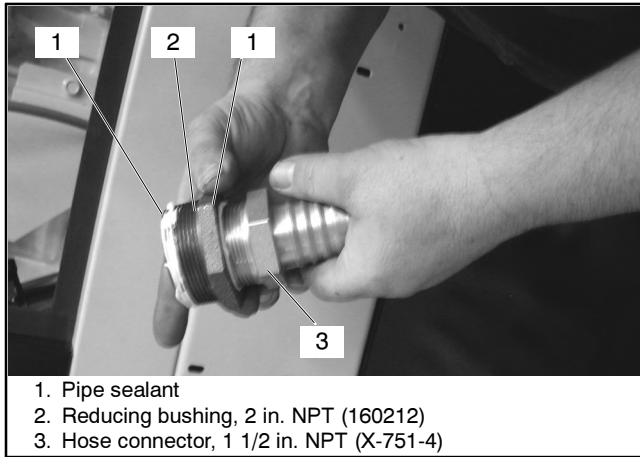

Figure 7 Subassembly of Adapter and Fitting
- 2.1.6 Apply pipe sealant to 2 in. NPT reducing bushing 160212. See Figure 7.
- 2.1.7 Apply pipe sealant to 1 1/2 in. NPT hose connector X-751-4. See Figure 7.
- 2.1.8 Assemble 1 1/2 in. NPT hose connector X-751-4 and 2 in. NPT reducing bushing 160212. See Figure 7.